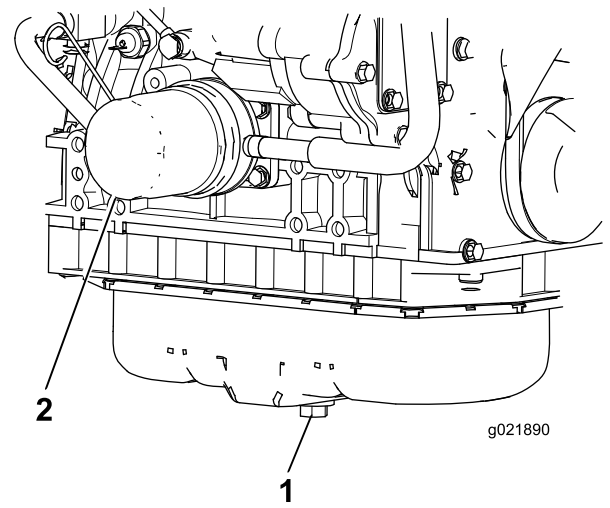

Figure 73
1. Remove the oil-drain plug (Figure 73) and let the oil flow into a drain pan. When all the oil is drained, install the drain plug.
2. Remove the oil filter (Figure 73). Apply a light coat of clean oil to the new filter seal before screwing it on. **Do not overtighten.**